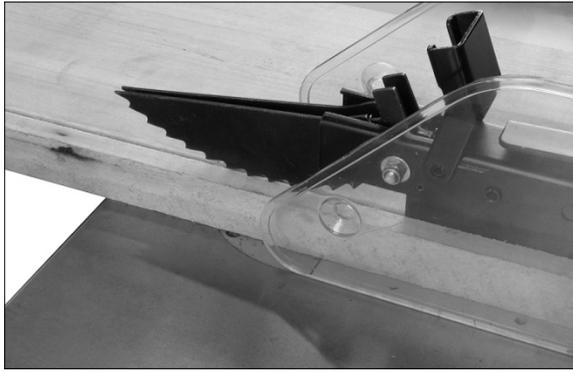

Figure 32
- As the machine receives use, the operation of the anti-kickback pawls should be checked periodically (Figure 32). If the pawls do not stop the reverse motion of a workpiece, sharpen all the points.